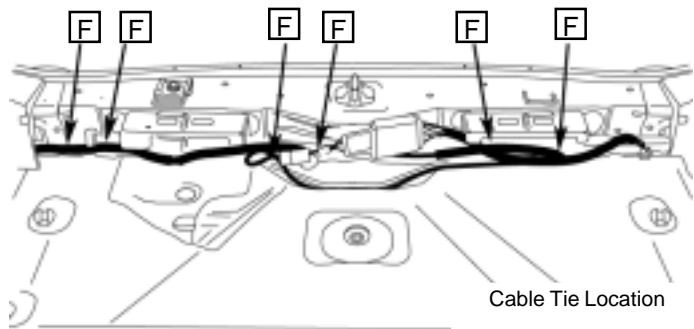

Figure 24.
- 4.) Route the power and ground connections toward the driver's side of the vehicle. Secure the cable to the vehicle's main harness using four cable ties **F** along the way (Figure 24.).